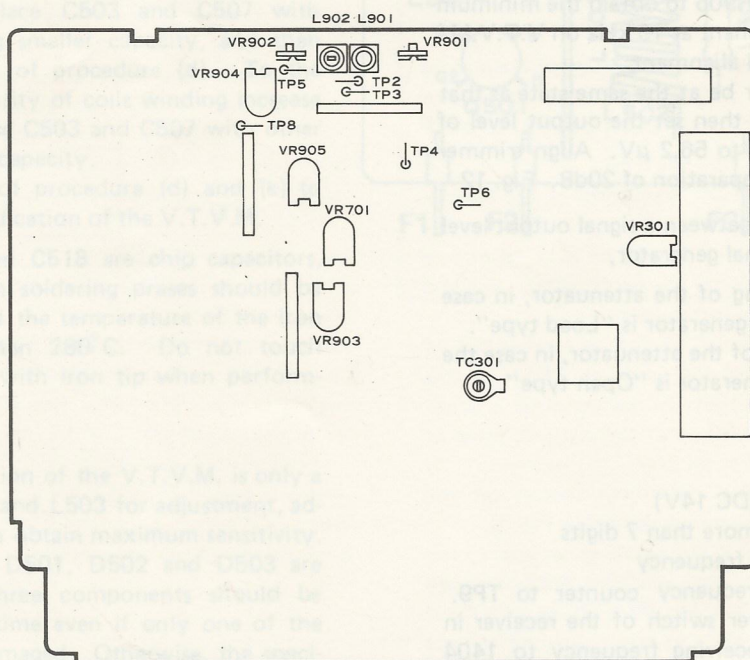

Fig. 12
- (a) Tune the frequency of FM RF signal generator to 98 MHz and output level to the no modulation value of 1mV. The receiver receives at 98 MHz. Connect a digital frequency counter to TP8. Refer to Fig. 12.
- (d) Tune the mode selector of the stereo modulator to only R channel. Align trimmer resistor VR903 to obtain maximum separation. Fig. 12.
Let the stereo modulator be at the same state as that set in procedure (d) and then set the output level of FM RF signal generator to  $56.2\mu\text{V}$ . Align trimmer resistor VR902 to have separation of 20dB. Fig. 12
- (a) Connect the input of frequency counter to TP9. Place the band changeover switch of the receiver in AM position and set receiving frequency to 1404 kHz. Refer to Fig. 12.